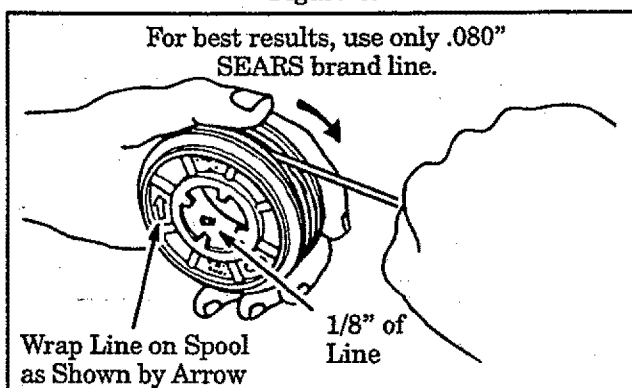

Figure 20
- c. Insert 1/16" to 1/8" of the end of the line through the hole in the spool. Figure 20. Allow no more than 1/8" line to extend inside the spool.
- d. Wrap the line onto the spool firmly and evenly in a clockwise direction as shown by the arrow on the spool. Figure 20.